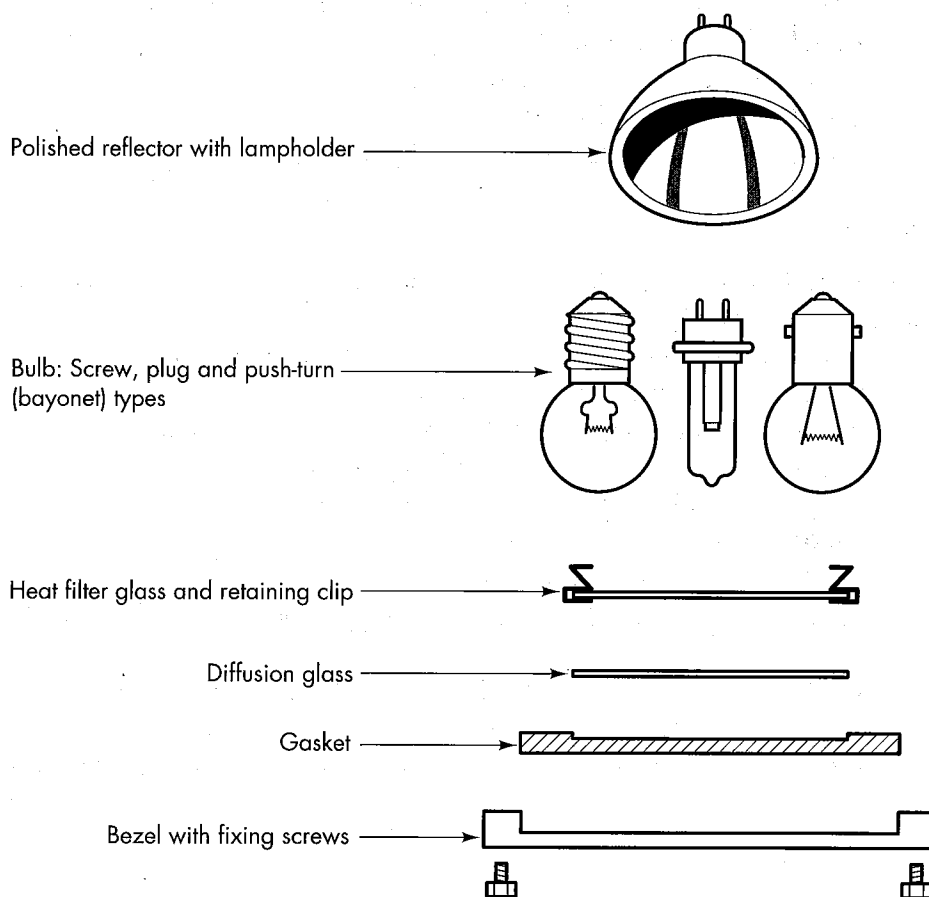

Figure 40: Bulb replacement
The lights are well sealed by rubber gaskets and bezel plates (see Figure 40). The lamp can be thoroughly washed without water entering the electrical circuit.
- unscrew the bezel plate (Figure 40)